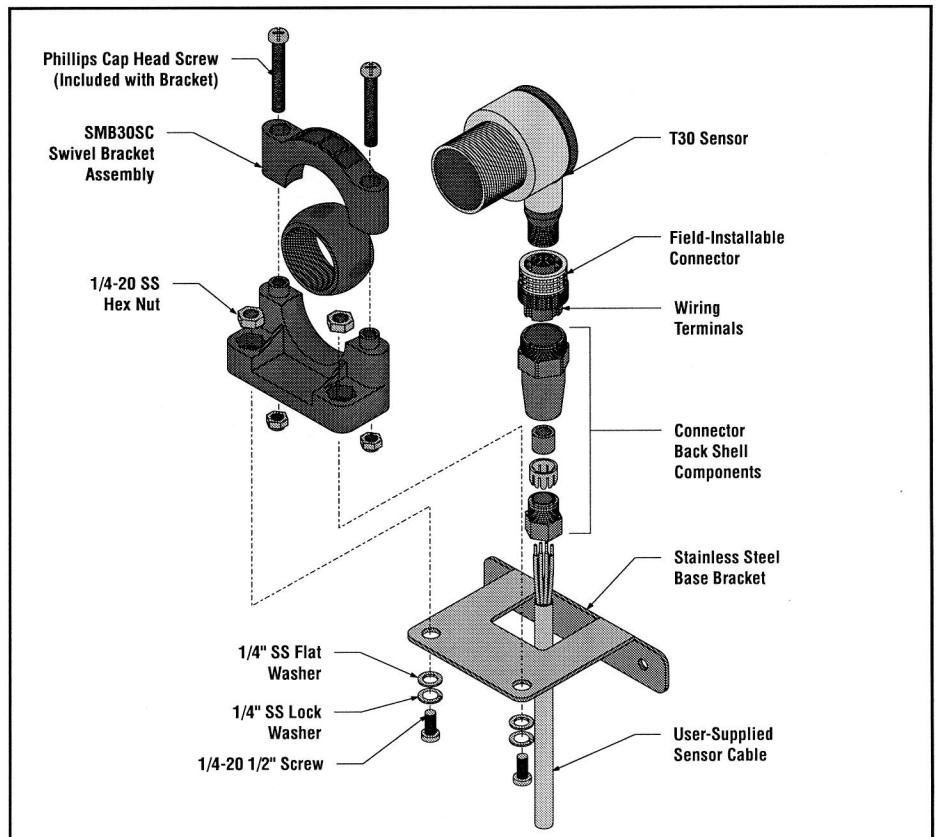

Figure 1. Over-Height Detection Kit components
2. Strip the cable jacket 22-26 mm and each conductor wire insulation 6 mm. Slide back shell components onto cable (Figure 1).